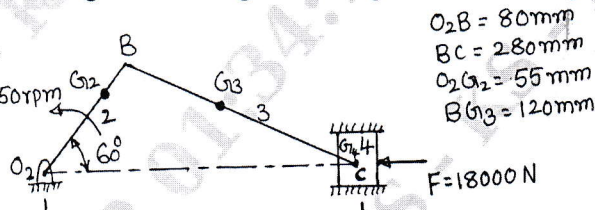

Fig.Q2(b)
b. A slider crank mechanism of a single cylinder diesel engine shown in Fig.Q2(b) is subjected to a gas force of 18000 N. The crank rotates counter clockwise at a constant speed of 1850 rpm. Determine (i) Force F_{14} and F_{12} and the torque T_2 exerted by the crank shaft on the crank for equilibrium. (ii) Magnitude and direction of the shaking force and its location from point O_2 . Take $m_2 = 2.5\text{kg}$, $m_3 = 3.7\text{kg}$, $m_4 = 3\text{kg}$, $I_2 = 0.0055\text{ kg-m}^2$, $I_3 = 0.041\text{ kg-m}^2$.